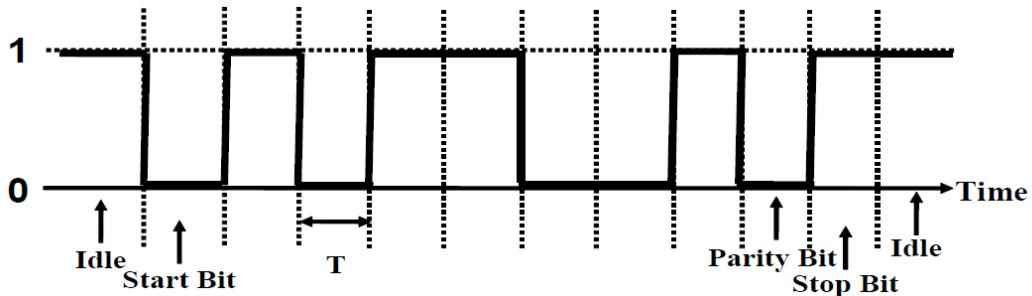

Fig. 2
- 2) Fig. 2 shows the logical waveform of an asynchronous data frame.
Answer the following question with reference to Fig. 2:
- i. The value of T in Fig 2. $1/9600 = 0.104 \text{ ms or } 1.04 * 10^{-4}$
- (f) Assume the baud rate of the transmitter is 4800, but the baud rate of the receiver is configured as 9600. Based on Fig. 2, determine, if any, the ASCII character(s) that will be received.